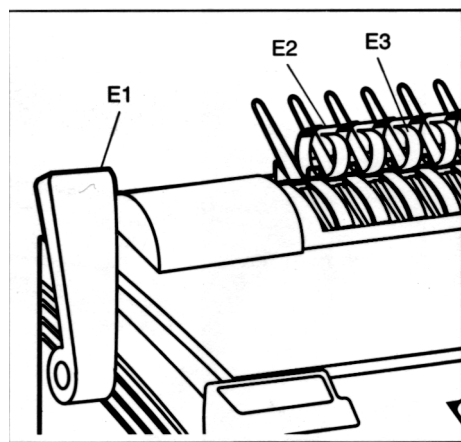

Figure 4
2. Rotate the Bind Lever up (E1) toward you until the Comb Binding Element (E2) opens sufficiently to insert your document (see figure 4).